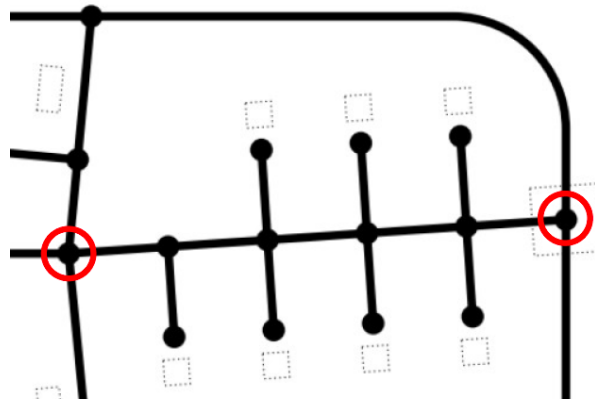

Figure 8: Valid Supply pick Nodes
- 6.3.5. Supply pick: At Warehouse, as soon as SM Bot picks up the Supply block, it transmits the Supply Pick Message (SPiM) as discussed in Section 2. SM Bot has to send the Supply Pick Message before crossing the subsequent Node. For a Supply pick to be considered as valid, SM Bot must carry the Supply out of the Warehouse, that is, it must traverse the Nodes in the Figure 8 below.